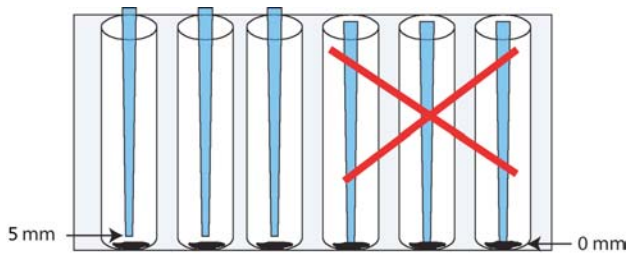

Figure 3. Pipette tip aspiration height warning.
- To optimize the mixing of particles, aspirate first from a comfortable height and then adjust that height downward. Under no circumstances should you mix MagneSil using 0 mm as an aspiration height (see Figure 3).